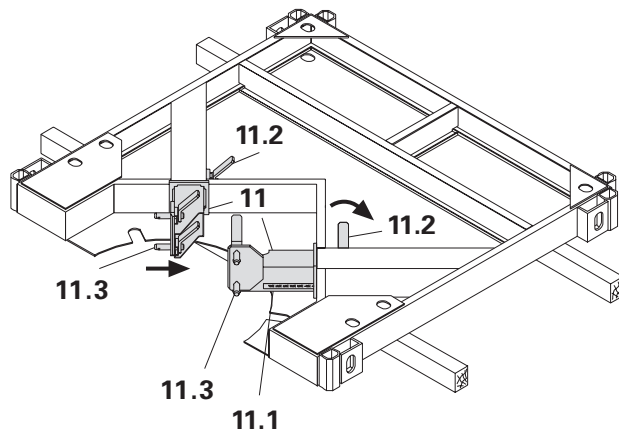

Fig.5
2. Pull the captive bolts **11.3** out until they reach the stop. Fig. 5